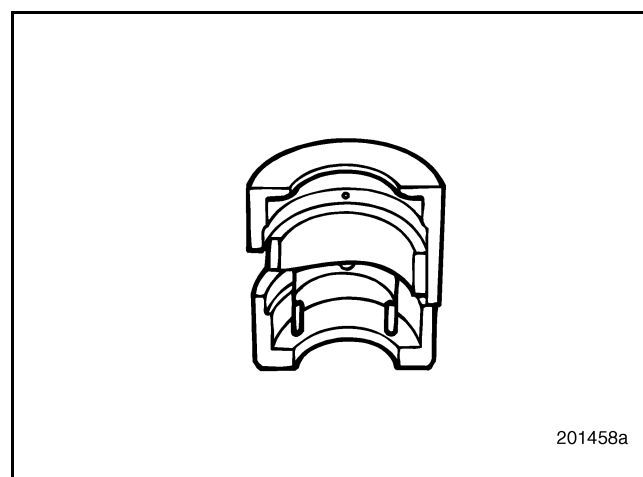

Figure 317 — Camshaft Removal/Installation Tool
4. Install the camshaft removal/installation tool J 41682 (Figure 317) in position on the rear segment of the camshaft, securing it with the clip to the shaft.